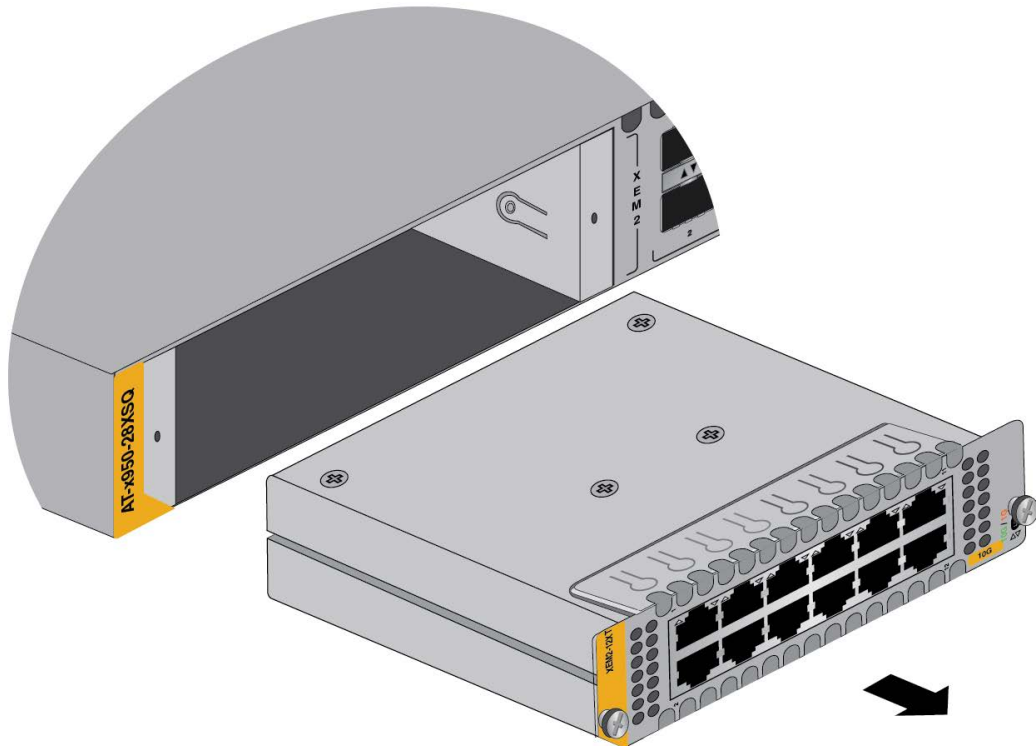

Figure 140. Sliding the XEM2 Line Card from the Switch
6. Carefully slide the card from the switch. Refer to Figure 140.